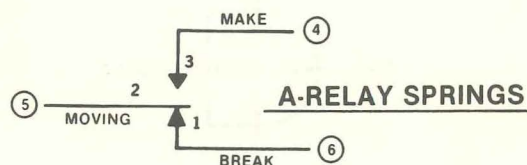

Figure 2 Connecting the CMC A-Matic 100A
- (6) Connect the wires to the Solid-State "A" Relay as follows (see Figure 2):